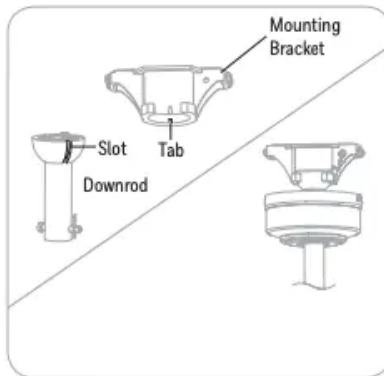

Figure 3.5
5. Install the ball end of the downrod into the opening of the mounting bracket (Figure 3.5).